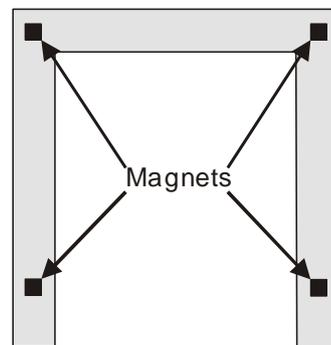

Figure 28
2. The trim is held on by four magnets. These will either be attached to the trim or supplied loose in a separate envelope. Space them as shown in **Figure 28**.